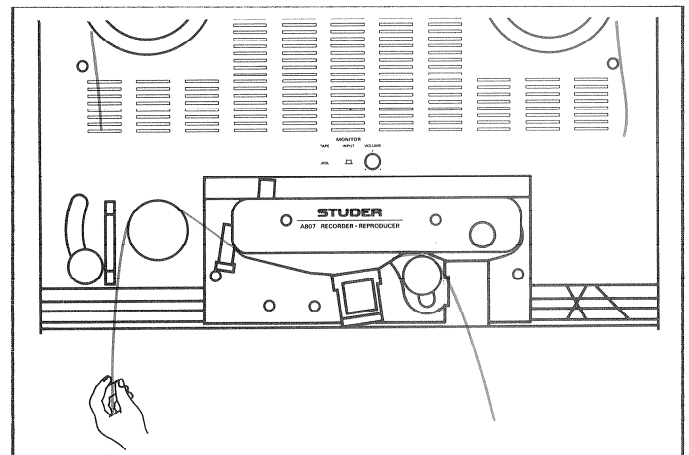

Fig. 2.4.9
- Thread the tape according to Fig. 2.4.9 and select the TAPE DUMP [25] function.